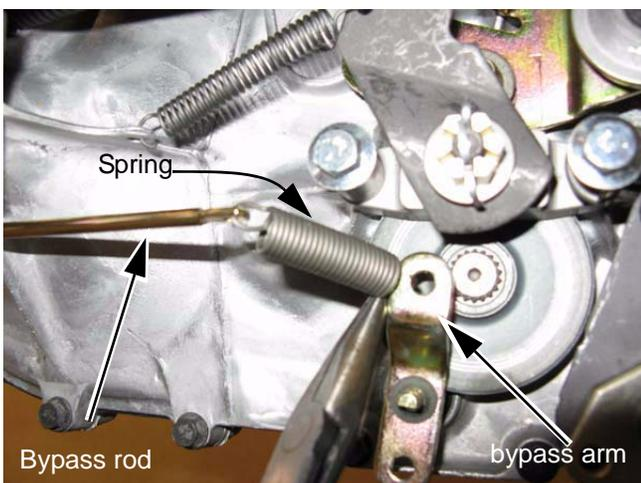

Figure 5.77
12. Disconnect the spring at the end of the bypass rod rod from the bypass arm on the transaxle. See Figure 5.77.